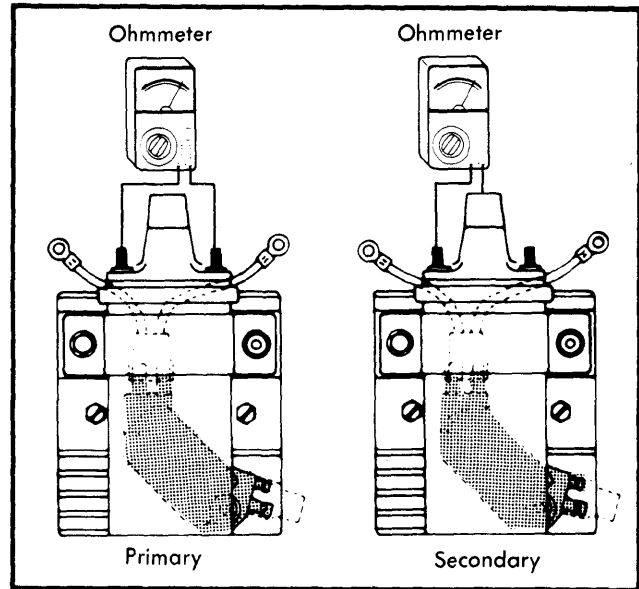

Fig. 5 Ohmmeter Hookup for Ignition Coil Primary and Secondary Resistance Check
1) Using an ohmmeter set in the low scale, connect the leads to the positive and negative primary terminals of the ignition coil. See Fig. 5. Resistance reading should be .75-.81 ohm.
2) Change ohmmeter to the x1000 scale and connect leads to coil negative terminal and coil center tower. See Fig. 5. Resistance should be 10,000-11,000 ohms.